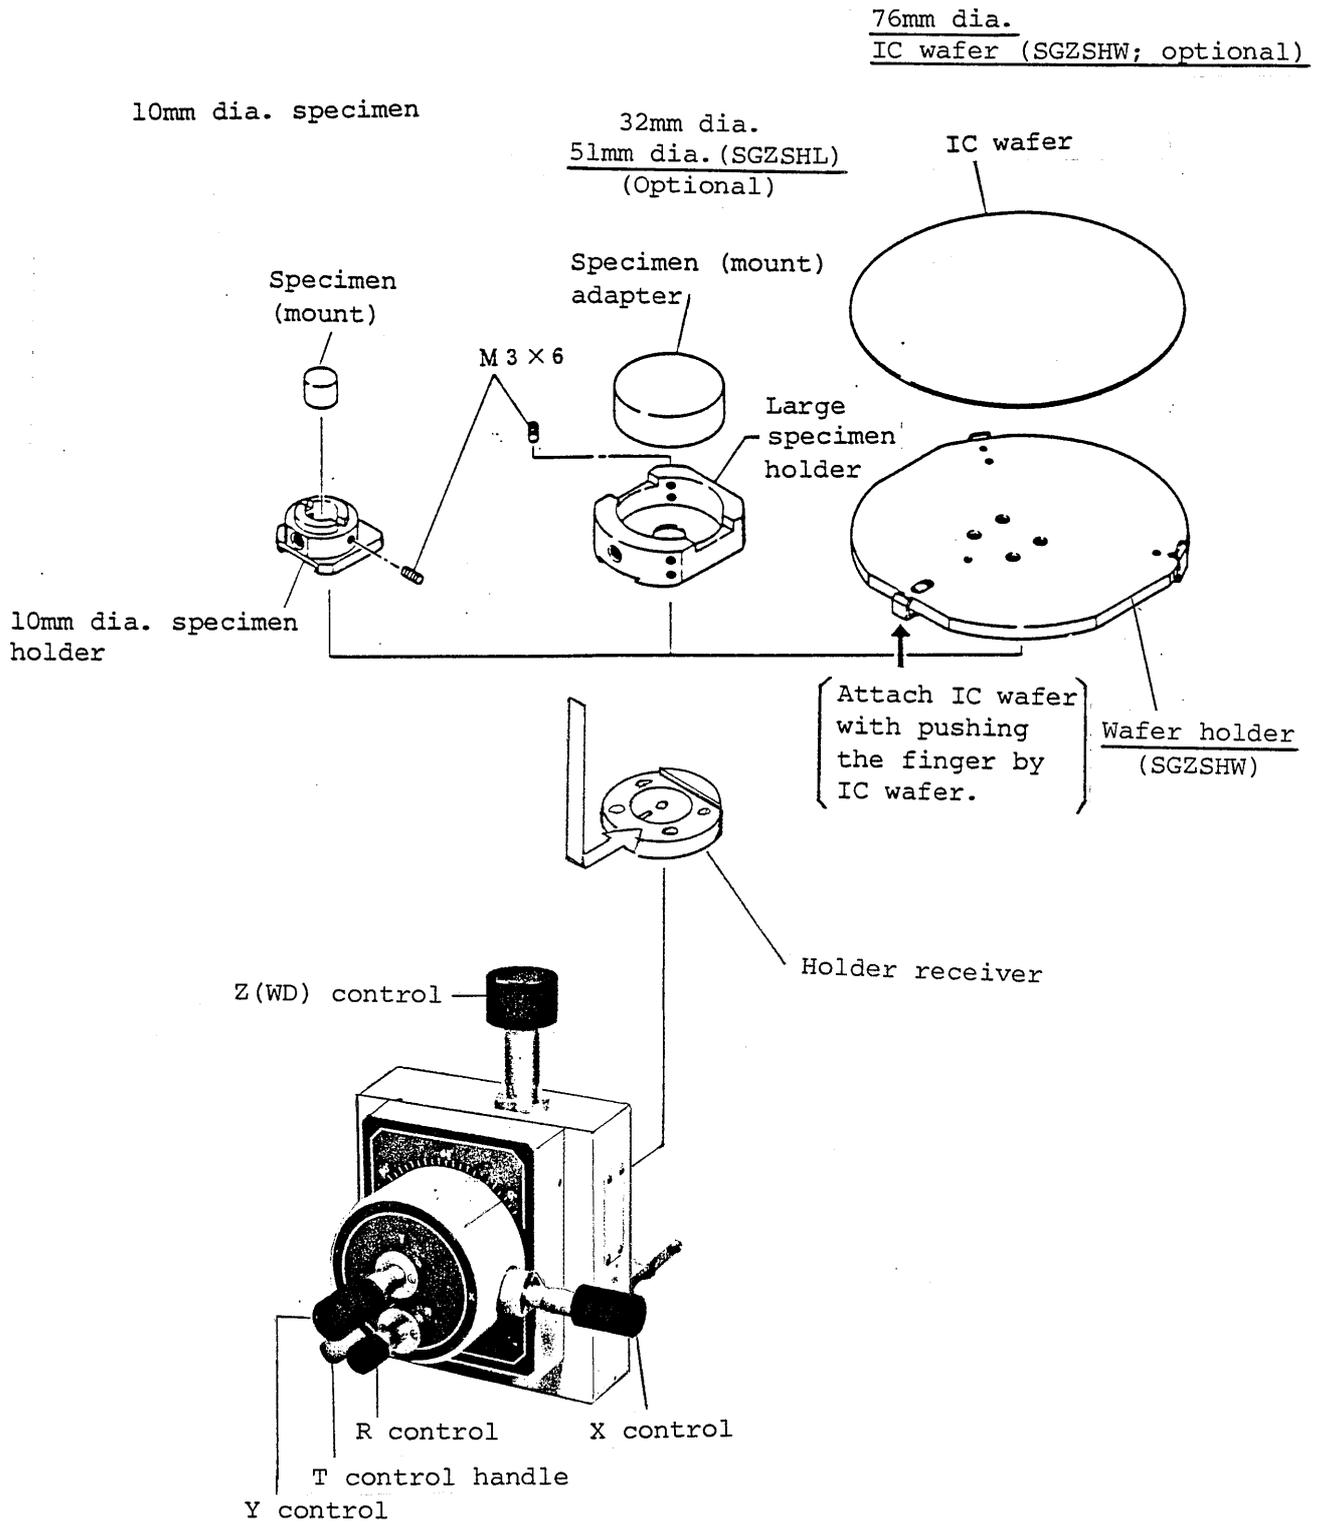

Fig. 3.3-6 Specimen Mounting (SGZ)
4. Select the suitable specimen holders (refer to Fig. 3.3-6).